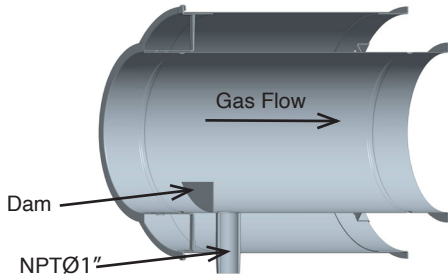

Figure 82 - Horizontal Drain Length
1. Horizontal Drain length is equipped with a 1" (25) NPT nipple, which is attached to the inner flue and extends through the outer casing to provide a path to drain grease, condensate or wash water from the duct. See Figure 82.